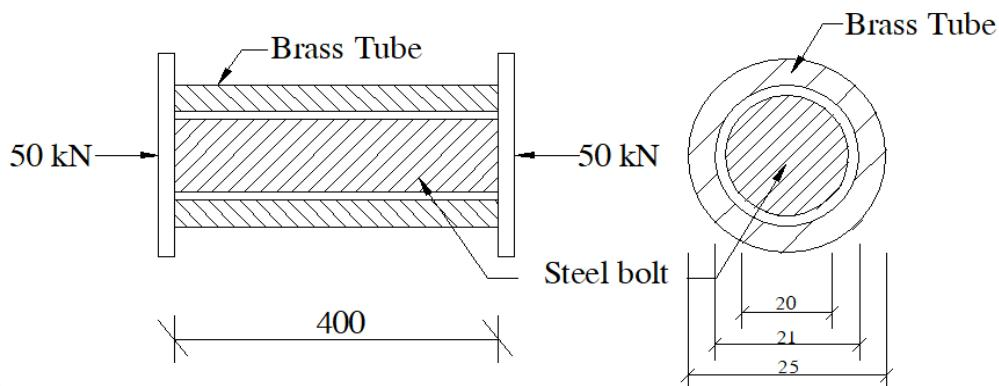

Figure 1
b) A steel bolt 20 mm diameter is enclosed in a brass tube of 25 mm external diameter and 2 mm thickness. Assume the ratio of $E_s / E_b = 2$. Initial length of both component is = 400 mm. Determine the stresses in the steel and brass, if the composite section is subjected to an axial compressive force of 50 kN. Assume $E_s = 200$ GPa. Find also the change in the length of the composite section. Refer Figure 1. **08**